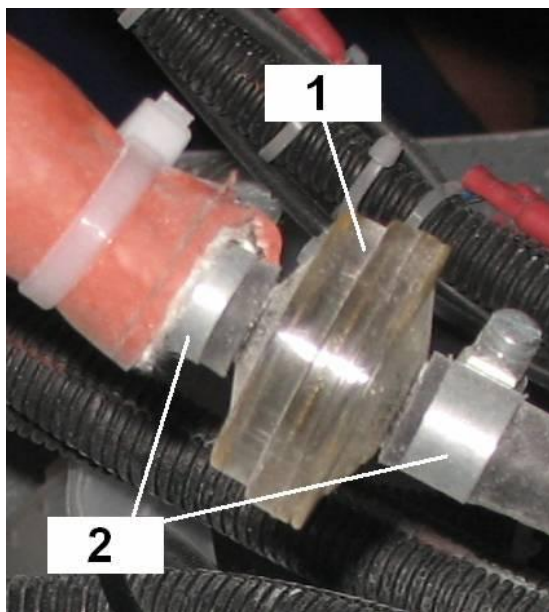

Fig. 5
1. Leaks at joint of the connector (Fuel Filter 5/16", Fig. 5, unit 1) and hose (Fuel tube DIN 73379, 7.5x13.0). Tighten the clamp Fig. 5, unit 2), if necessary;